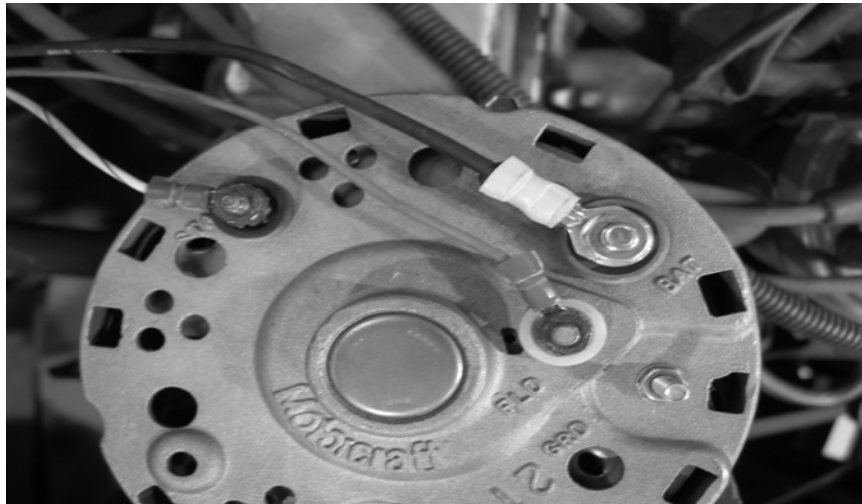
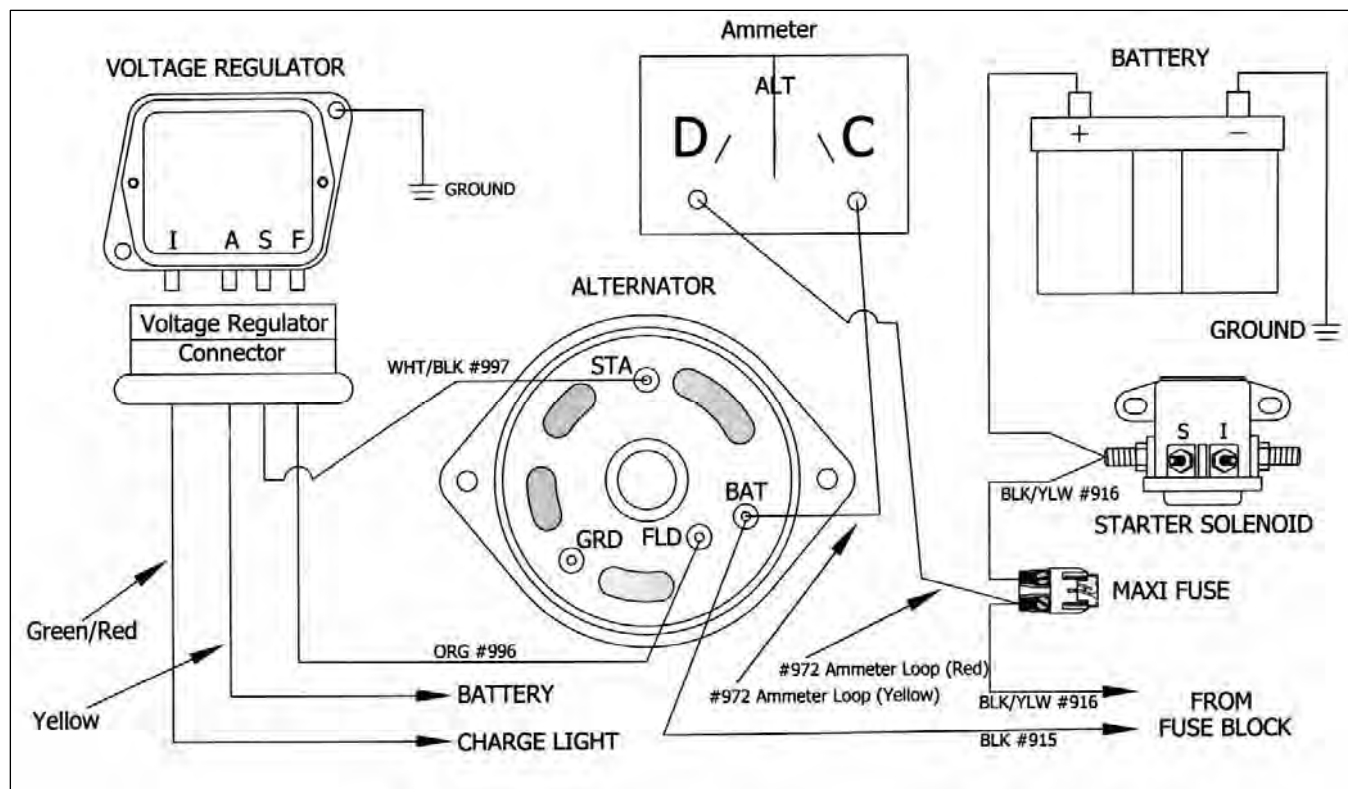

Figure 7-2 Alternator Connections '67-'77 Models
Figure 7-7 Alternator/Regulator/Solenoid Connections
- 7.1.1 Connect PASSENGER SIDE SECTION wire #915 (Blk) to the Alternator Output post marked "Bat". **See Figure 7-2. If the truck being rewired has an ammeter, it will be necessary to connect the #972 Red and #972 Yellow wires as illustrated in Figure 7-7 on page 14.**
- 7.1.2 Connect PASSENGER SIDE SECTION wire #996 (Org) to the Alternator post marked "FLD" for Field. Next connect wire #997 (Wht/Blk) to the Alternator post marked "STA" for Stator. **See Figure 7-2**
7.1.6 Using the provided ring terminals connect the PASSENGER SIDE SECTION black/yellow wire #916 to one side of Maxi Fuse Base. Using the remaining portion of wire #916 connect the other side of the Maxi Fuse Base to the Battery side of the starter solenoid. **See Figure 7-7.**